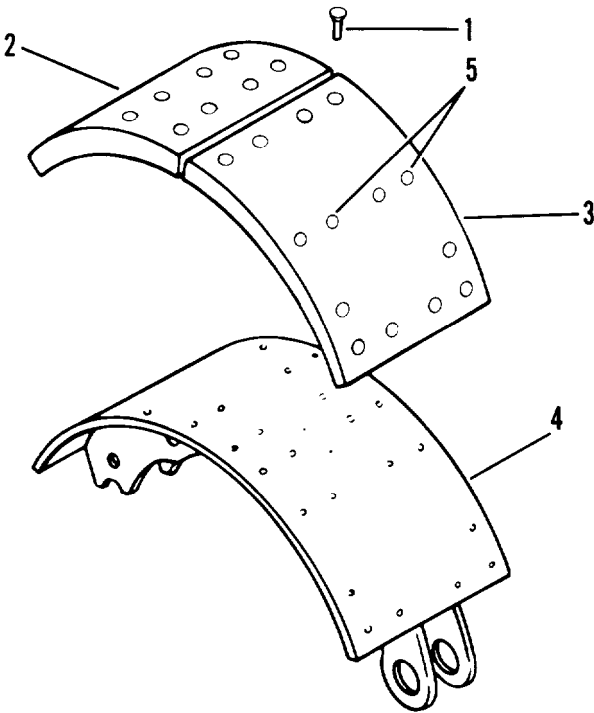

Figure 5-4. Brake lining replacement
- (1) Remove 12 rivets (1, figure 5-4) from each lining (2 and 3).
- (2) Strip linings (2 and 3) from brake shoes (4).
- (1) Install new lining (2, figure 5-4) on brake shoes (4).
- (2) Align rivet holes (5) in brake shoe (4) and lining (2 and 3). Clamp linings in place.
- (3) Install end rivets (1) in lining (2 and 3). Remove clamp and install remaining rivets (1).
- (4) Check contact of linings (2 and 3) with brake shoe (4) after riveting. A 0.010 inch feeler gage should not enter between brake shoe (4) and lining (2 and 3) at any point.
- (5) Install brake shoes (para. 4-40).
- (6) Install brake drum and hub (para. 4-45).
- (7) Install tires and wheels (para. 4-43).